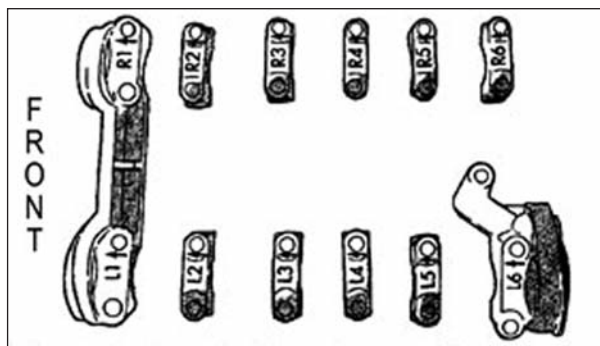

Figure 1 Remove cylinder head valve cover on Chrysler 2.0L and 2.4L engines, then remove L2 cam bearing cap.
2. Remove L2 cam bearing cap (see **Figure 1**).
D. Tighten all bolts in the specified sequence (Fig 1) an additional 90° (1/4 turn).